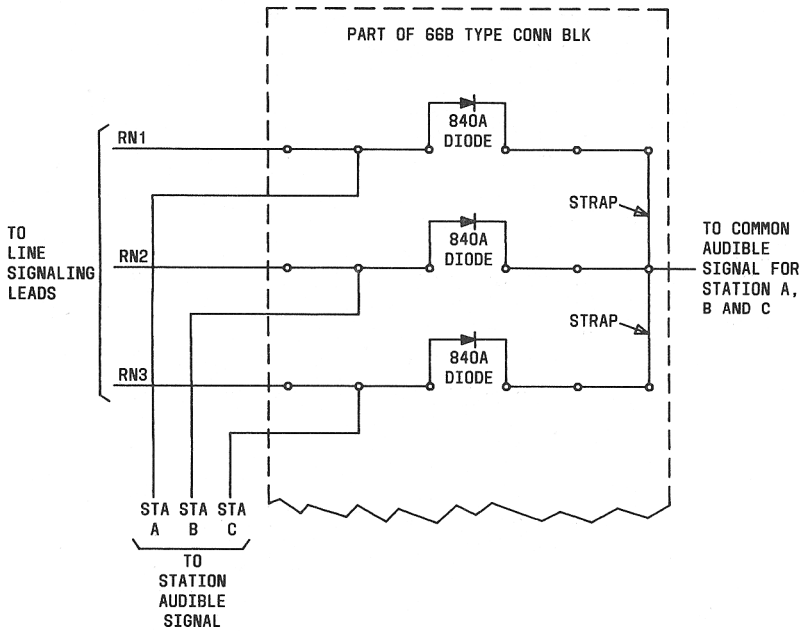
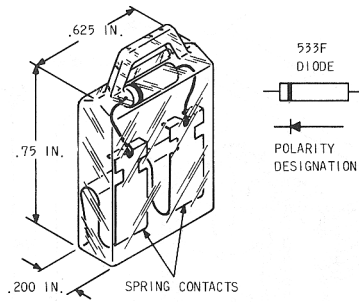

Fig. 6—Typical Common Audible Signaling Arrangement on 66-Type Connecting Block With 840A Diode
Fig. 7—840A Diode
3.09 ♦A typical common audible signaling arrangement using a 66B-type connecting block, and 840A diode for signaling one common audible signal from three CO/PBX lines, is shown in Fig. 6. Refer to Fig. 7 for the polarity designation of the 840A diode.♦